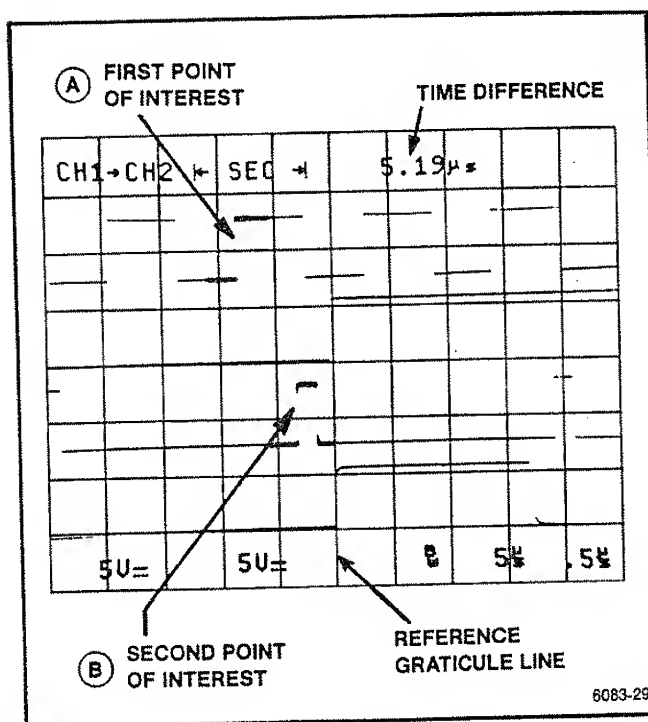

Figure 6-15. Time difference using Δ TIME with two delays.
6. Using the center horizontal graticule line as a reference point, set the reference delay to align the point of interest to be measured (point A in Figure 6-15) from to that reference point with the Δ OR DELAY control. Set the Δ delay to align the second point of interest, displayed in the second B Sweep (point B in Figure 6-15), to the reference point using the Δ OR Δ control. The measured